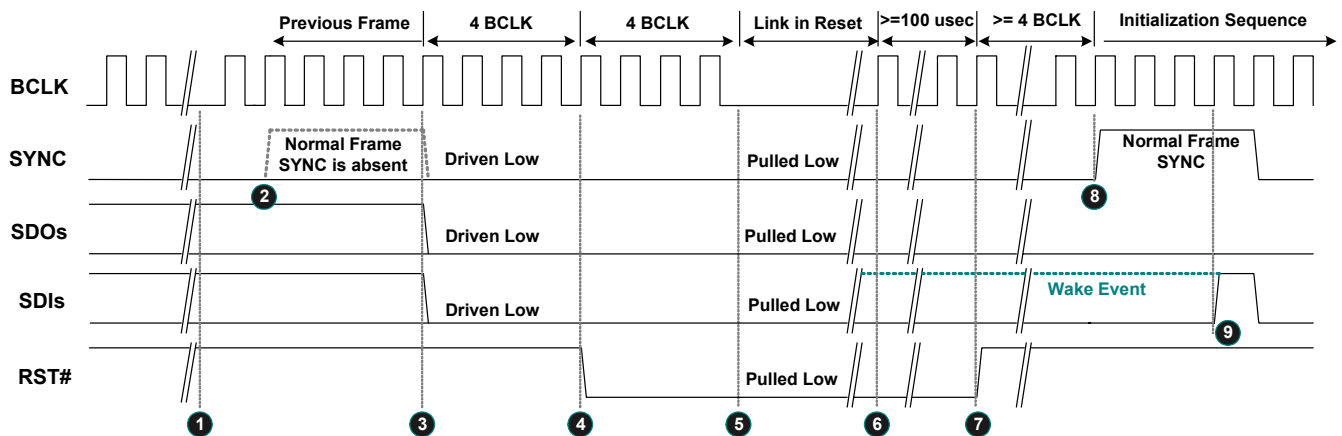

Figure 14. Link Reset Timing
3. Software initiates power management sequences. Figure 14, page 21, shows the 'Link Reset' timing including the 'Enter' sequence (①~⑤) and 'Exit' sequence (⑥~⑨)